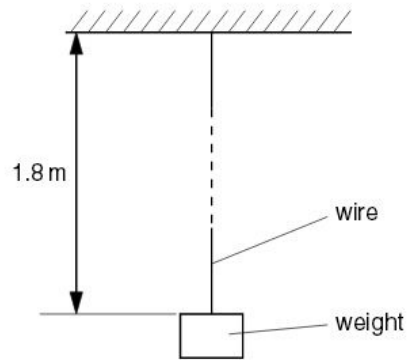

Fig. 9.1
- 9 An aluminium wire of length 1.8 m and area of cross-section $1.7 \times 10^{-6} \text{ m}^2$ has one end fixed to a rigid support. A small weight hangs from the free end, as illustrated in Fig. 9.1.